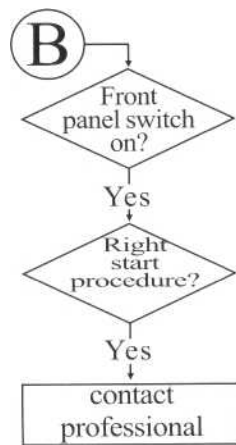

figure 10: fault handling chart
b. Refer to fault handling procedure fault handling procedure figure 10.